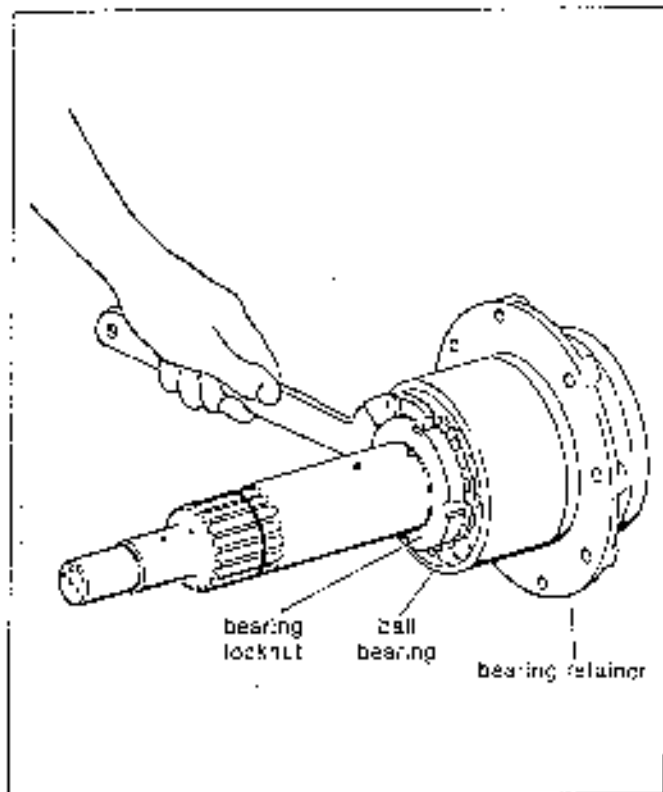

Fig. 32. Removing Bearing Locknut from Shaft.
4. Remove bearing locknut with spanner wrench and remove lockwasher. See Fig. 32 below.